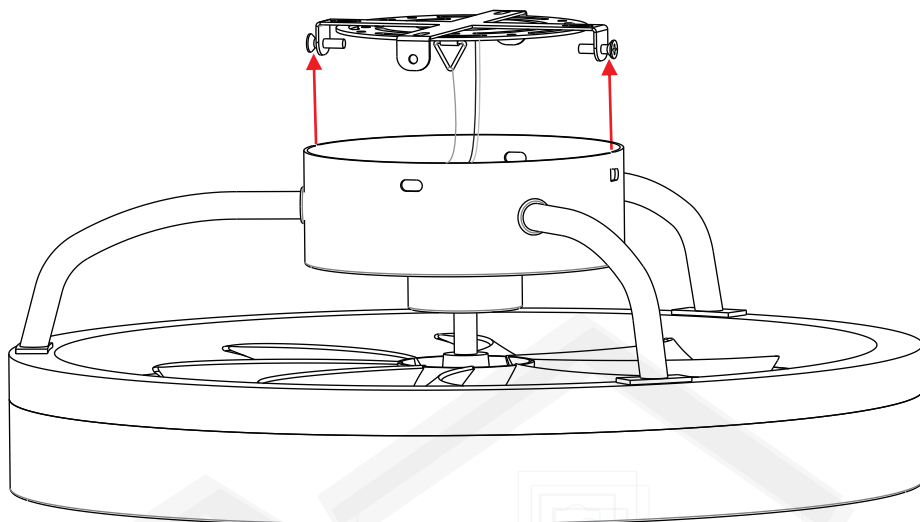

Figure 4
4. Install the lamp body on the upside- down board (Figure 4)